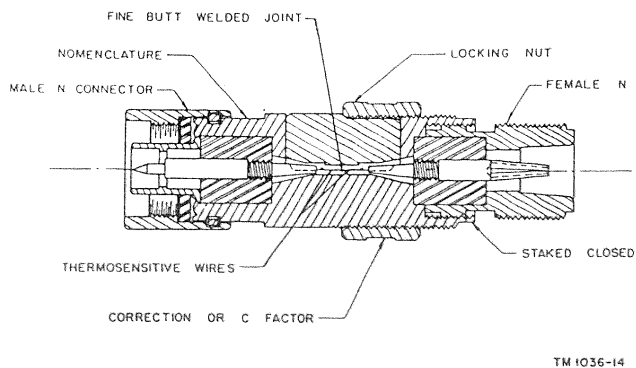

Figure 14. Cross Section of Thermocouple
a. Figure 14 shows a cross-section typical of the thermocouples MX-1785/U, MX-1781/U, MX-1782/U and MX-1783/U. These thermocouples have a butt-welded junction of two straight lengths of thermosensitive wire. The composite wire thus formed is connected between the center conductor pins.
a. The thermocouples E201, E202, E203 and E204 are staked closed at the connectors and are not subject to field maintenance. Reference to Fig. 14 shows construction of a typical thermocouple. All four types provided with this equipment are essentially the same, differing mainly in the diameter of the wire used in the leads. Unscrewing the locking nut (with correction factor on band) and sliding it off the body frees the cover, giving access to thermocouple leads. This will only help to give visual evidence of continuity or short circuit. These thermocouples may also be checked externally by resistance measurement, see preceding paragraph. They should show a center conductor d-c resistance of approximately the following values: